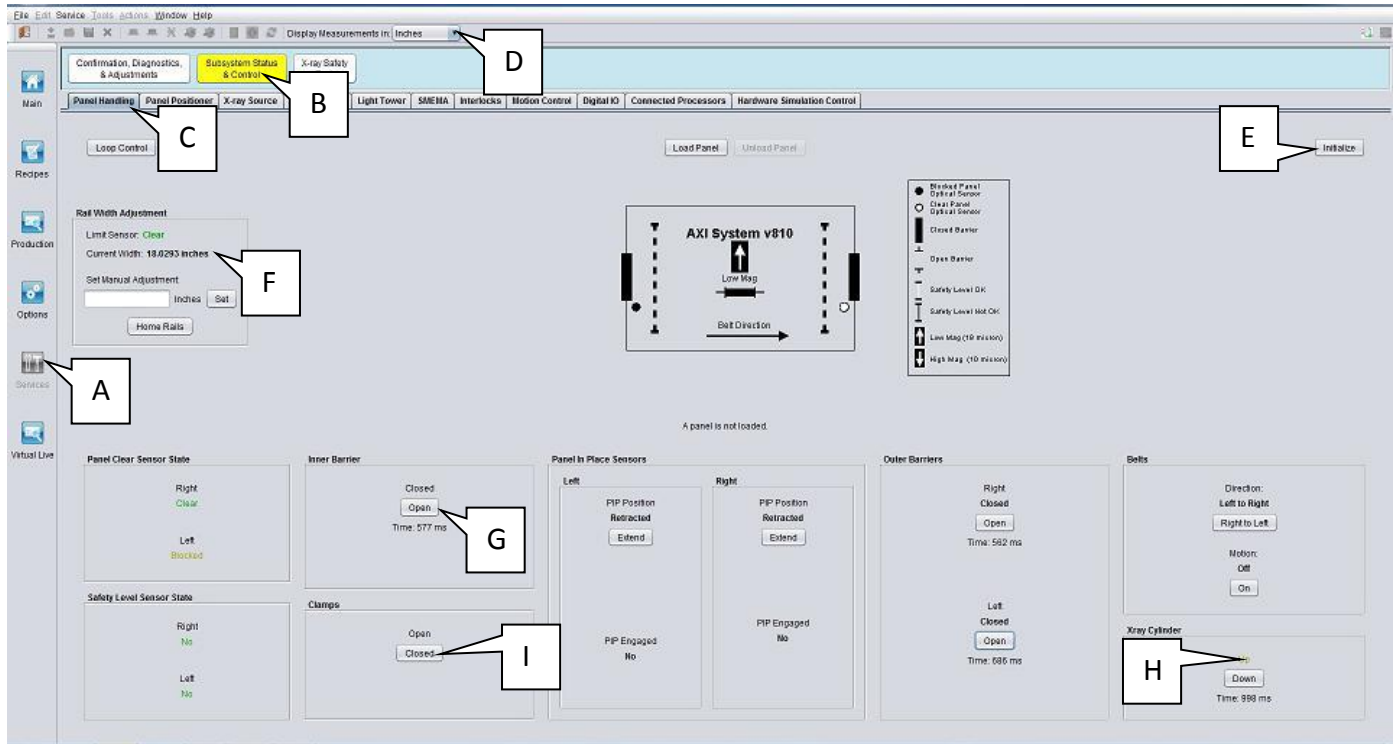

Figure 5 Panel Handling
8. Go to Panel Handling tab and initialize as show in Figure 5. Change display measurement unit to inch and set AWA rail width to 18 inch. Trigger Inner Barrier in Open position, tube cylinder to “Up” position and Clamp in Open position.